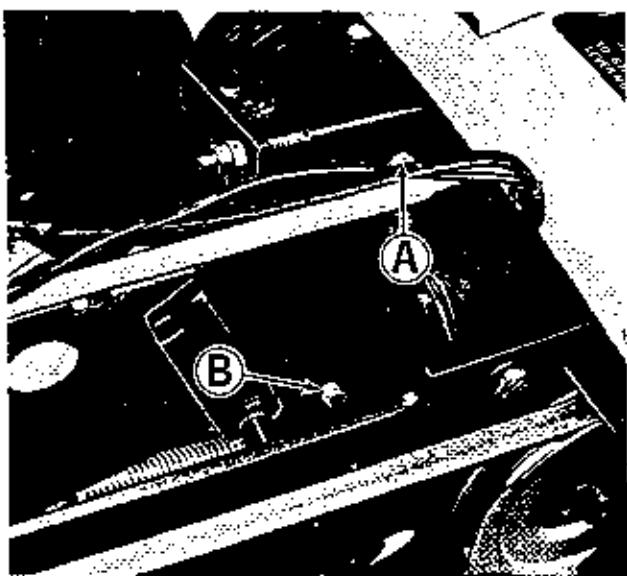

Figure 31. Bevel gear housing located under seat deck.
CHECK BEVEL GEAR BOX OIL LEVEL: See figure 31. The bevel gear box fill plug is located at (A). The gear box is properly filled when SAE 90 weight transmission oil is added until it touches the end of the fill plug dipstick assembly. Do not screw plug into housing when measuring for oil level. Drain bevel gear housing by removing drain plug (B). To prevent oil leakage, securely tighten both fill and drain plugs. The fill plug assembly is vented.